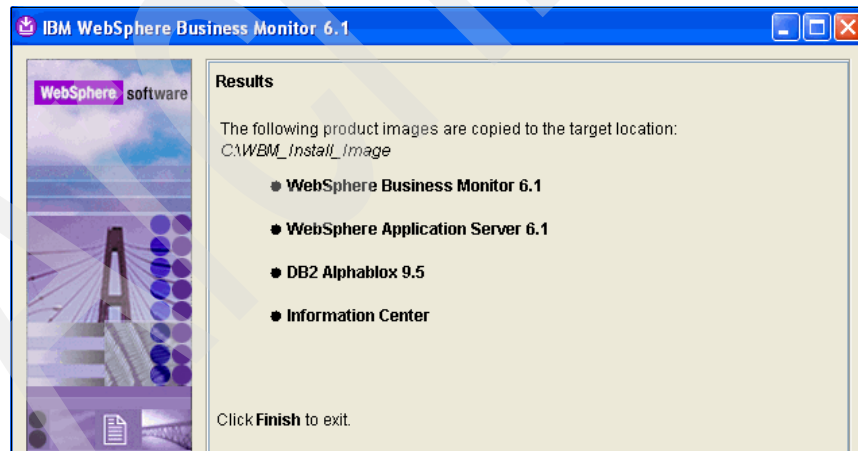

Figure 3-19 WebSphere Business Monitor 6.1 installation preparation: Result
10. The next display (Figure 3-19) shows the target directory and the list of products that the tool copied. At this point, all products that you will use in your Business Monitor installation are set up correctly. Click **Finish** to exit the tool.